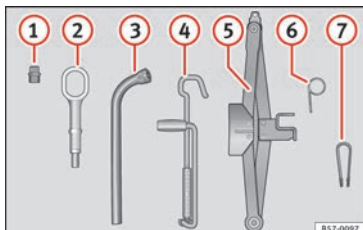

Fig. 68 Underneath the floor panel of the luggage compartment: vehicle tool kit.
- Fit the plastic clip (vehicle tools) » » **Fig. 68** ⑦ over the cap until it clicks into place » » **Fig. 69**.